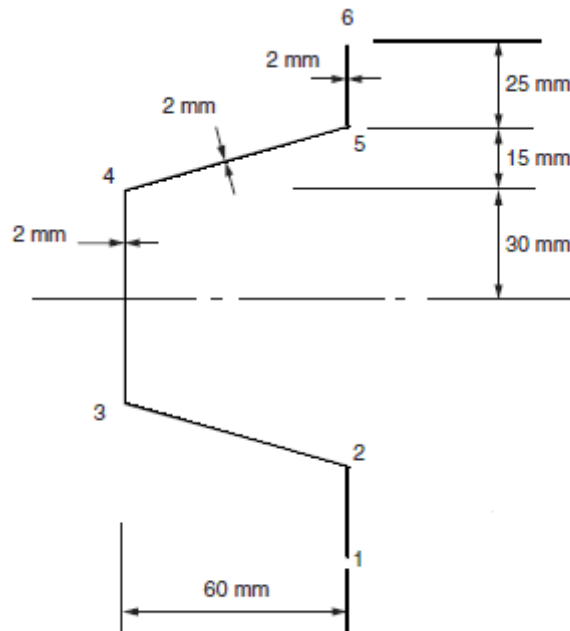

Figure 7:
8. Determine the rate of twist per unit torque of the beam section shown in Figure 7 if the shear modulus  $G$  is  $25\,000 \text{ N/mm}^2$ .